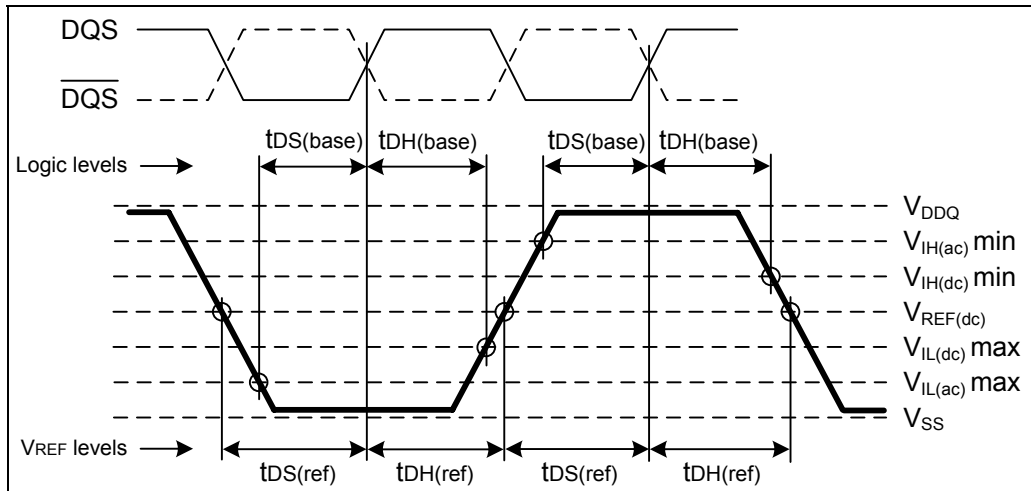

**Figure 19 — Differential input waveform timing – tDS and tDH**
16. Input waveform timing  $t_{DS}$  with differential data strobe enabled  $MR[\text{bit}10]=0$ . There are two sets of values listed for DQ and DM input setup time:  $t_{DS}(\text{base})$  and  $t_{DS}(\text{ref})$ . The  $t_{DS}(\text{ref})$  value (for reference only) is equivalent to the baseline value  $t_{DS}(\text{base})$  at  $V_{REF}$  when the slew rate is 2.0 V/nS, differentially. The baseline value  $t_{DS}(\text{base})$  is the JEDEC defined value, referenced from the input signal crossing at the  $V_{IH}(\text{ac})$  level to the differential data strobe crosspoint for a rising signal, and from the input signal crossing at the  $V_{IL}(\text{ac})$  level to the differential data strobe crosspoint for a falling signal applied to the device under test.  $\overline{DQS}$ ,  $\overline{DQS}$  signals must be monotonic between  $V_{IL}(\text{dc})_{\text{max}}$  and  $V_{IH}(\text{dc})_{\text{min}}$ . See Figure 19. If the differential  $\overline{DQS}$  slew rate is not equal to 2.0 V/nS, then the baseline values must be derated by adding the values from table of DDR2-667, DDR2-800 and DDR2-1066  $t_{DS}/t_{DH}$  derating with differential data strobe (page 60).
17. Input waveform timing  $t_{DH}$  with differential data strobe enabled  $MR[\text{bit}10]=0$ . There are two sets of values listed for DQ and DM input hold time:  $t_{DH}(\text{base})$  and  $t_{DH}(\text{ref})$ . The  $t_{DH}(\text{ref})$  value (for reference only) is equivalent to the baseline value  $t_{DH}(\text{base})$  at  $V_{REF}$  when the slew rate is 2.0 V/nS, differentially. The baseline value  $t_{DH}(\text{base})$  is the JEDEC defined value, referenced from the differential data strobe crosspoint to the input signal crossing at the  $V_{IH}(\text{dc})$  level for a falling signal and from the differential data strobe crosspoint to the input signal crossing at the  $V_{IL}(\text{dc})$  level for a rising signal applied to the device under test.  $\overline{DQS}$ ,  $\overline{DQS}$  signals must be monotonic between  $V_{IL}(\text{dc})_{\text{max}}$  and  $V_{IH}(\text{dc})_{\text{min}}$ . See Figure 19. If the differential  $\overline{DQS}$  slew rate is not equal to 2.0 V/nS, then the baseline values must be derated by adding the values from table of DDR2-667, DDR2-800 and DDR2-1066  $t_{DS}/t_{DH}$  derating with differential data strobe (page 60).